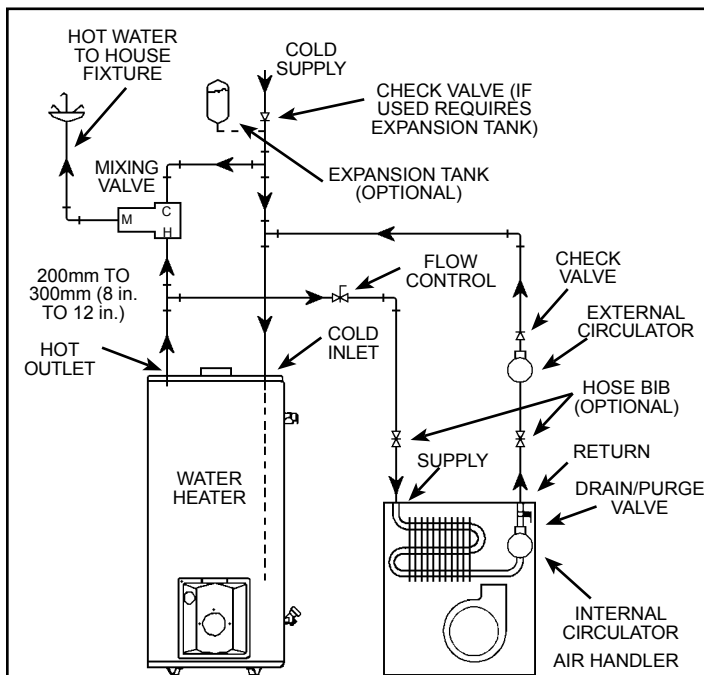
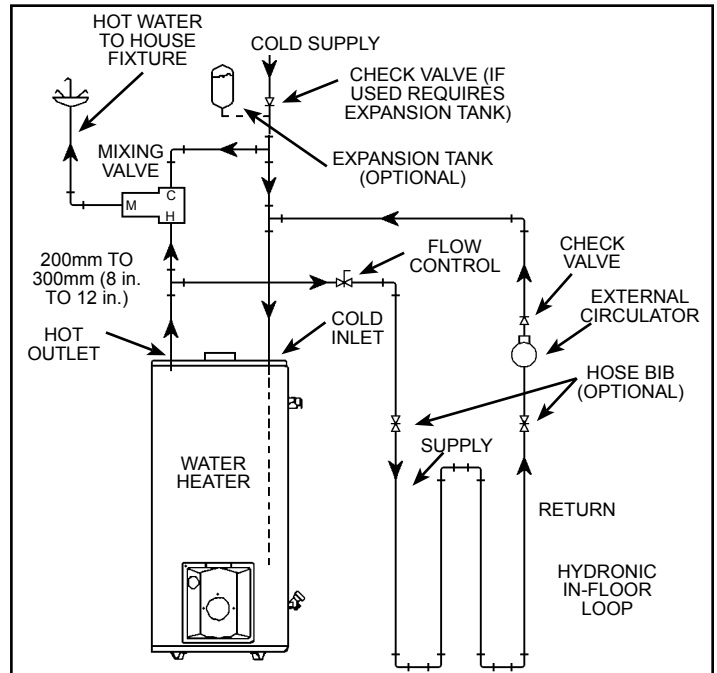

Figure 17. Combo Heating - Air Handler
Figure 19. Combo Heating - In-Floor Loop
- “Combo” Heating Systems require higher water temperatures than other applications. When the system is used to supply water for Combo Heating applications, a means, such as mixing valve, must be installed to temper the water in order to reduce scald hazard potential (see Figure 17 through Figure 19).
- A fan coil/air handler (Figure 17).
- A hydronic in-floor heating loop (Figure 19).